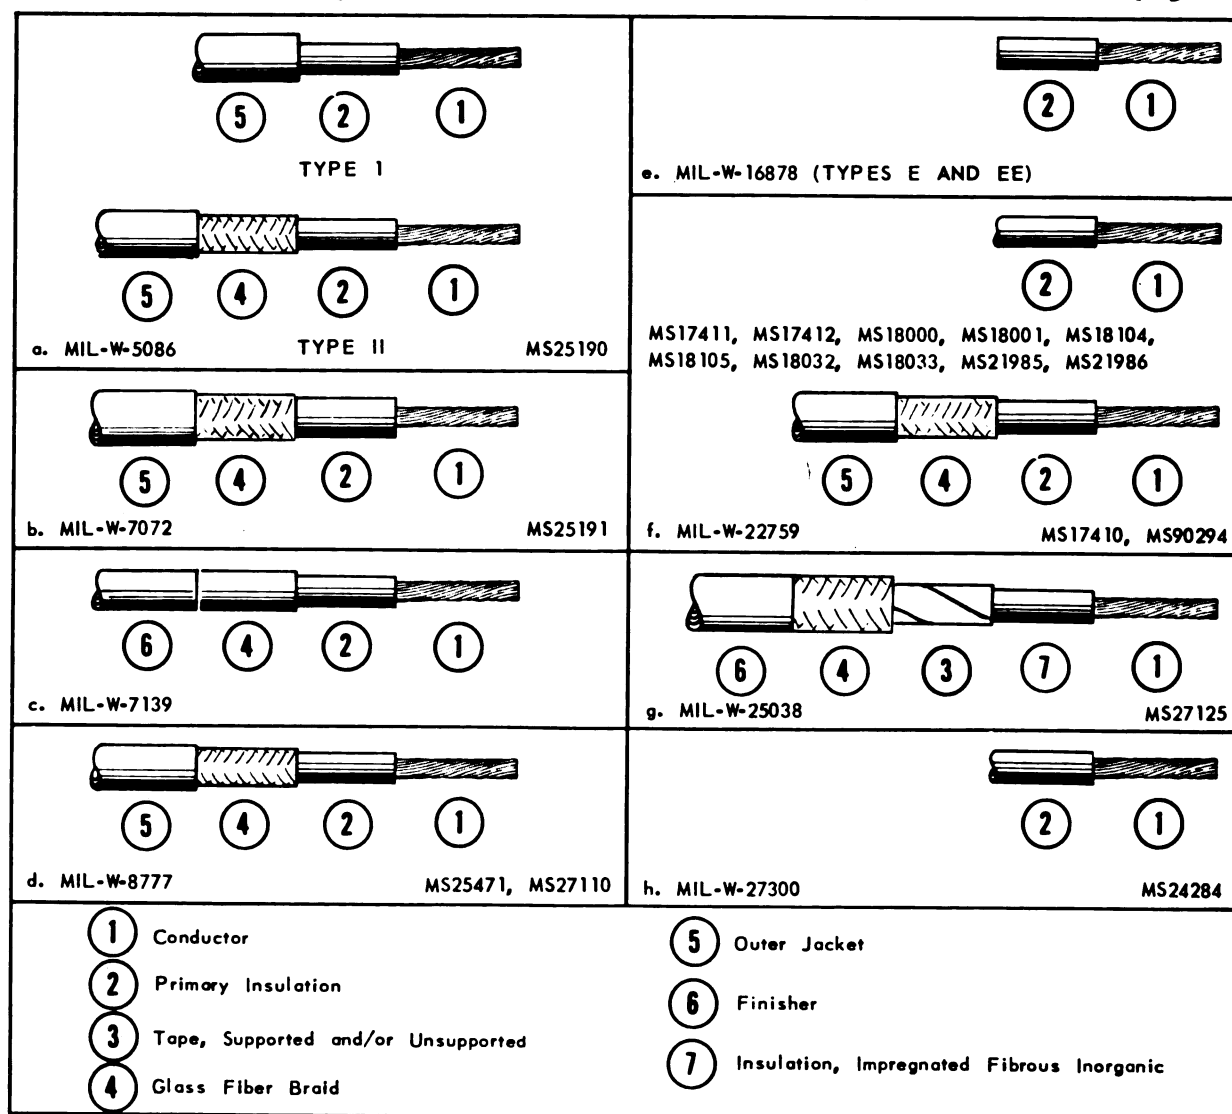

Figure 2-1. Wires Commonly Used in Aircraft
a. Insulated Wire. For purposes of electric and electronic installation in aircraft, an insulated wire consists of a metal conductor covered with a dielectric or insulating material, (see figure 2-1). Insulated wire is usually referred to as "wire" and will be so designated in this manual. Wires used in aircraft contain stranded conductors for flexibility. Insulations may consist of several materials and layers to provide dielectric insulation, thermal protection, abrasion resistance, moisture resistance and fluid resistance. Wires commonly used in aircraft are described in table 2-1.